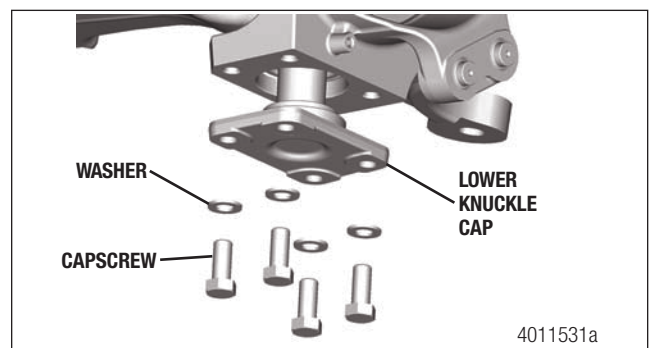

Figure 5.27
1. Remove the four capscrows and washers from the lower knuckle cap. Figure 5.27.